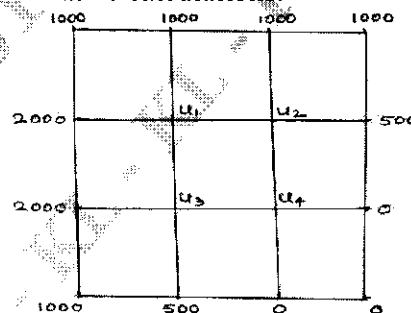

Fig.Q9
- 9 Given the values of  $u(x, y)$  on the boundary of the square in Fig.Q9, evaluate the function  $u(x, y)$  satisfying the Laplace equation  $\nabla_u^2 = 0$  at the pivotal points of this figure in Fig.Q9. Use Gauss-Seidel method for iterative calculations. (16 Marks)